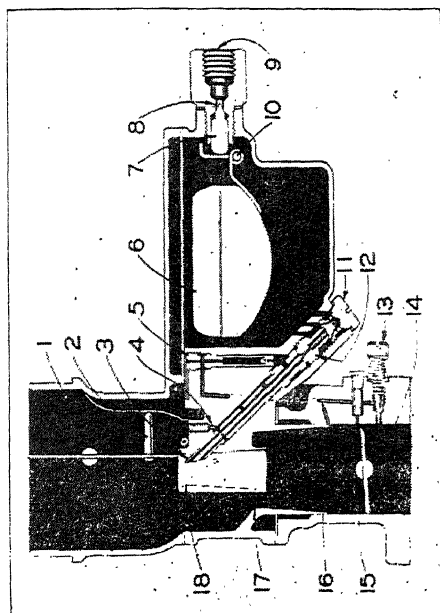

Fig. 44
**Main Metering System.** Fuel enters the carburetor at the gasoline inlet 10, Figs. 44 and 45, flowing through the float needle valve and seat 7-8 into the float bowl. Here it is maintained at constant level by float 6. Air, which enters the carburetor through the air entrance at the top, places suction on the main discharge jet 3, or idle discharge holes 14, depending on the amount of throttle opening. The main metering jets 12 are of the fixed type. They control the flow of gas during the intermediate speeds of part throttle position up to approximately 75 miles per hour. From the metering jets the fuel passes into the main discharge jet 3, where it is mixed
**Low Speed or Idling Adjustment.** Allow the engine to warm up until the throttle returns to slow-idle. Idle needle valves 13, Fig. 44, control the gas for low-speed adjustment. Turning OUT the needle gives a richer mixture, and turning it IN a leaner mixture. Turn the inner idling adjustment (the one toward the engine) in slowly until the engine begins to lag or run irregular, then slowly turn out until the engine begins to roll. Finally, turn in the adjustment very slowly again just enough so that the engine runs smoothly for this throttle opening. This adjusts the mixture to the four cylinders which are fed by the inner carburetor barrel. Adjust the outer idle adjustment so that its four cylinders fire smoothly. It may be necessary, after completing this adjustment, to cut down the engine speed slightly.